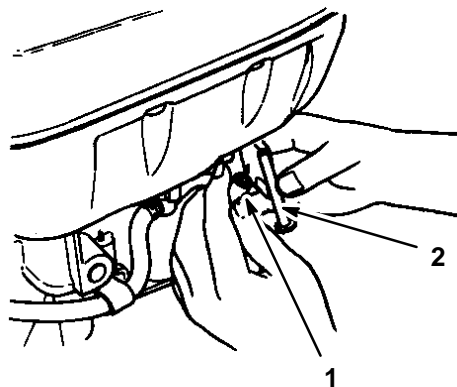

Figure 18
6. Remove the fuel tube on the fuel tank by loosening the tube clamp (Fig. 18).